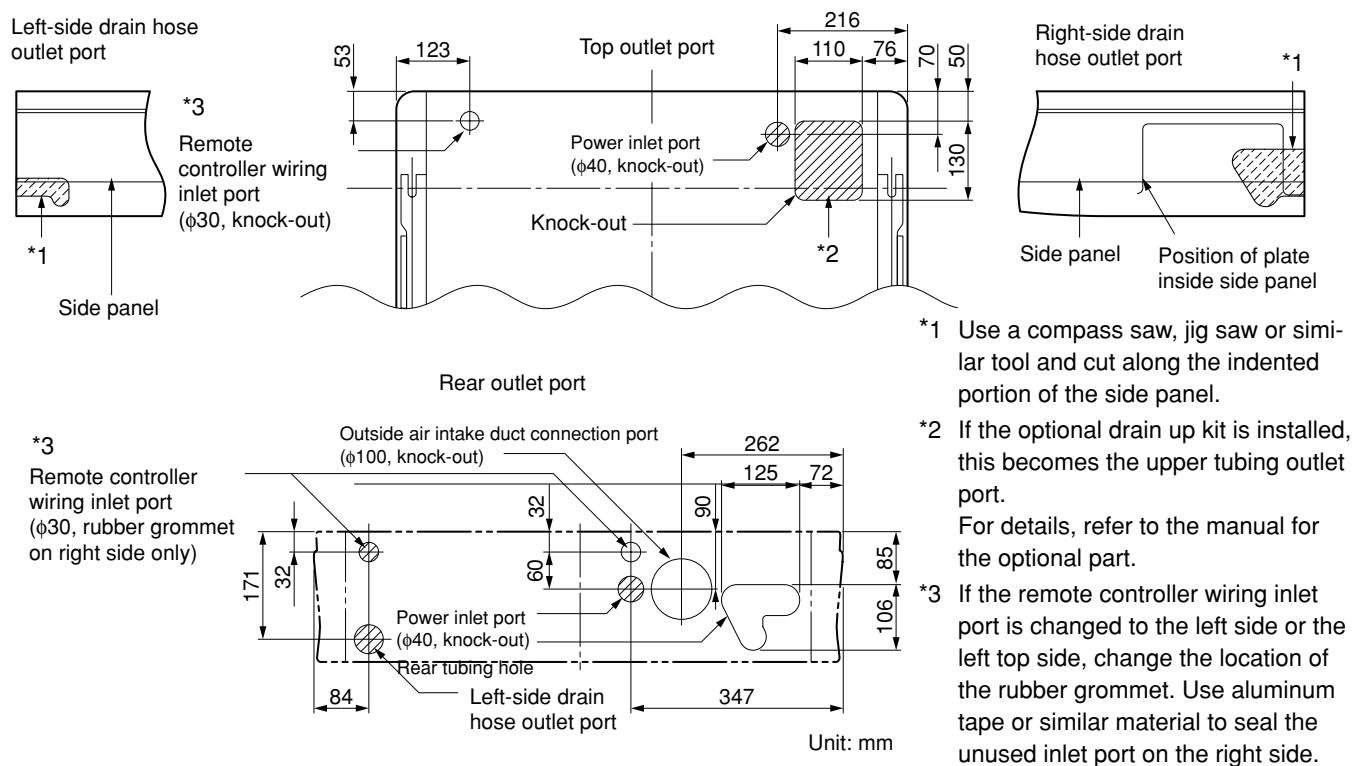

Fig. 3-82
- * When routing the tubing out through the top or right sides, knock out the appropriate parts in the top panel and cut notches in the side panel as shown in Fig. 3-82.